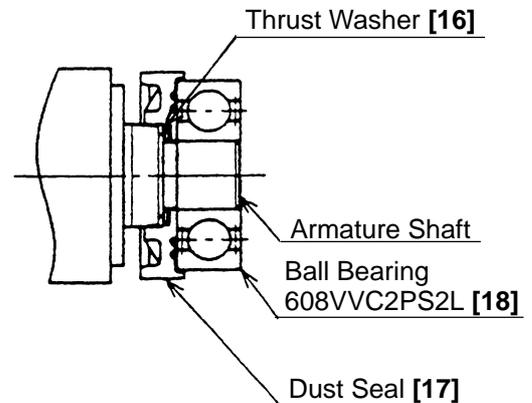

Fig. 7
(1) Generously lubricate the teeth of Gear [20] and Pinion [6] with grease. Rub grease onto the teeth with your fingers so that the grease reaches each tooth bottom. Note that under-lubricated Gear [20] and Pinion [6] may wear at a faster rate.
(2) When replacing the Armature [12] and the Ball Bearing 608VVC2PS2L [18] on the commutator side, press inward on Dust Seal (A) [17] while taking care of its direction until the end face of Dust Seal (A) [17] hits against the butting surface of the Armature [12] and make sure that Dust Seal (A) [17] cannot turn freely. (See Fig. 7.)